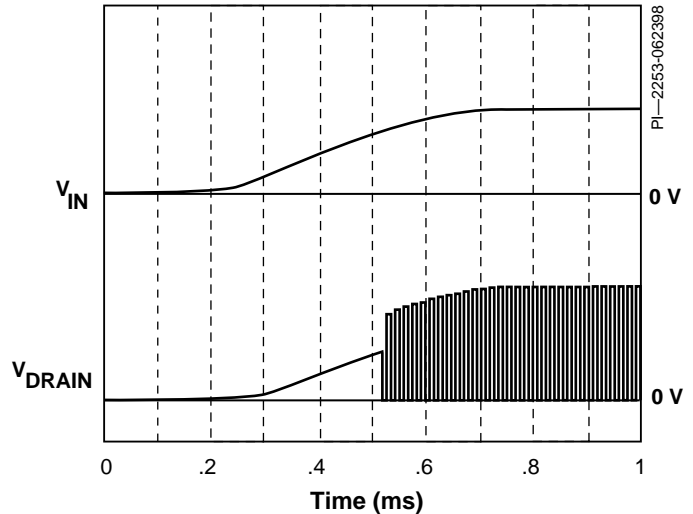
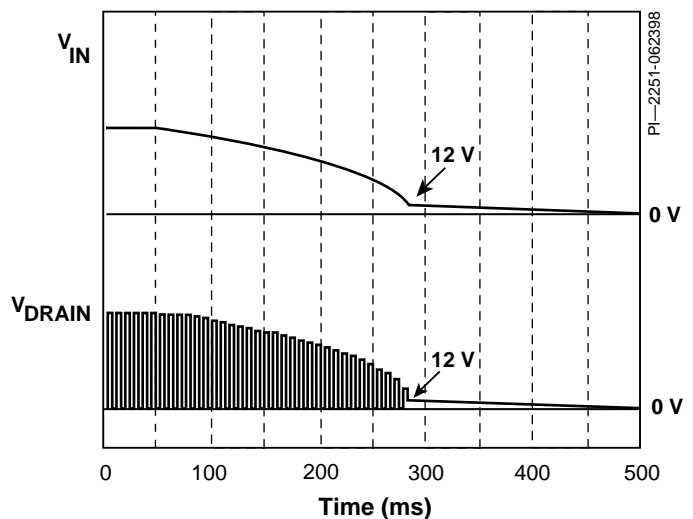

Figure 7. *TinySwitch* Power-Up Timing Diagram.
Figure 8. *TinySwitch* Power Down Timing Diagram.
*TinySwitch* requires only a 0.1  $\mu\text{F}$  capacitor on the BYPASS pin. Because of the small size of this capacitor, the power-up delay is kept to an absolute minimum, typically 0.3 ms (Figure 7). Due to the fast nature of the ON/OFF feedback, there is no overshoot at the power supply output. During power-down, the power MOSFET will switch until the rectified line voltage drops to approximately 12 V. The power MOSFET will then remain off without any glitches (Figure 8).